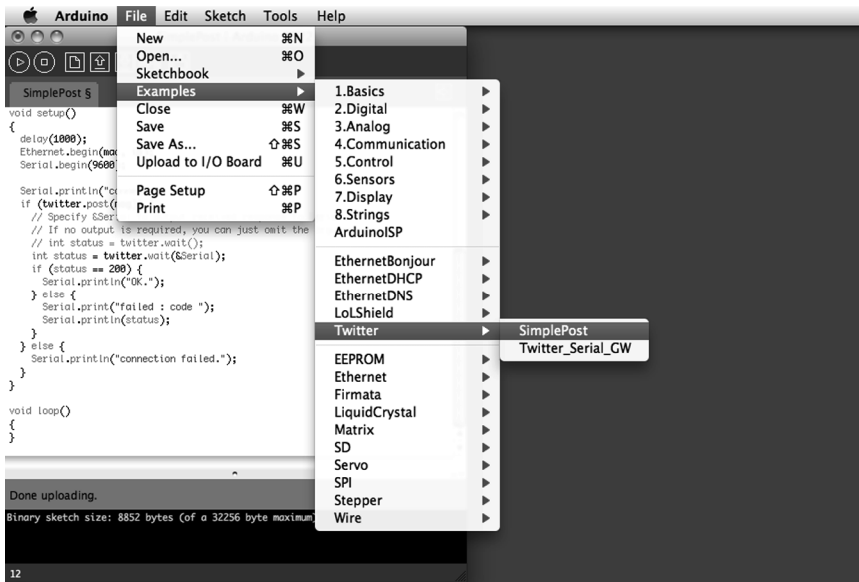

Figure 11-2. Twitter library example
With that in hand, we need to plug it into the Arduino and connect it to our network using an Ethernet cable. Next up, we need to install two of the four Arduino libraries, available from the earlier link, used in this application: Twitter and EthernetDNS. The other two libraries, SPI and Ethernet, come with Arduino versions 0019 and newer. Next up, we can start with the example sketch, SimplePost, included with the Twitter library and shown in Figure 11-2.
■ **Note** You might have noticed that we're using the 0022 version of Arduino in Figure 11-2. At the time of this writing, the Twitter library did not play nice with the 1.0 beta but the Arduino developers are working hard and I'm sure this will be fixed by the time this book is published.